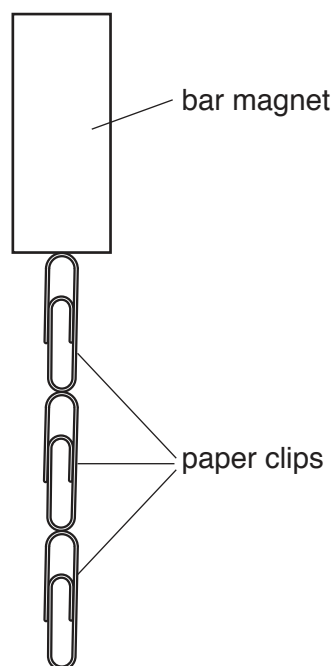

Fig. 2.1
- 1 The magnet should be able to support the three disconnected steel paper clips, as shown in Fig. 2.1.